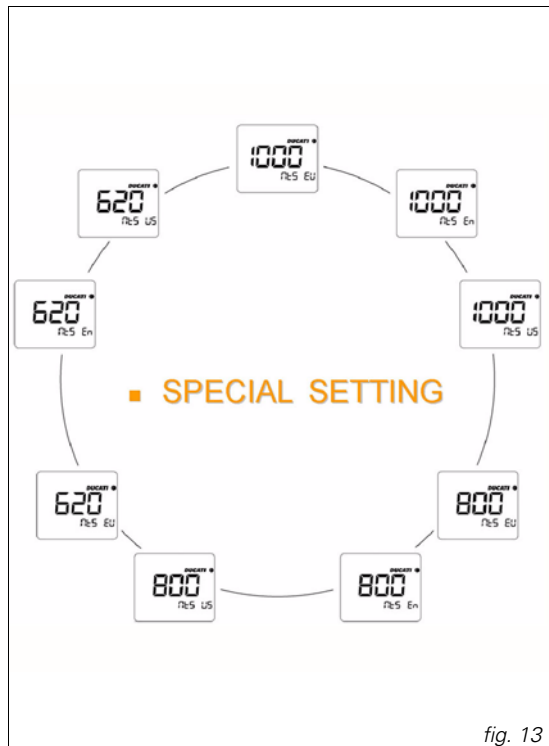

fig. 13
**Special selections function: motorcycle model and units of measurement** (fig. 13)